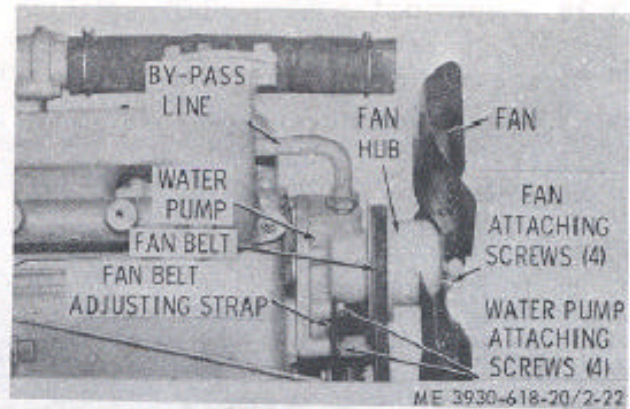

Figure 2-22. Water pump, installed view.
*b. Removal.* Refer to figure 2-22 and remove the water pump as follows: